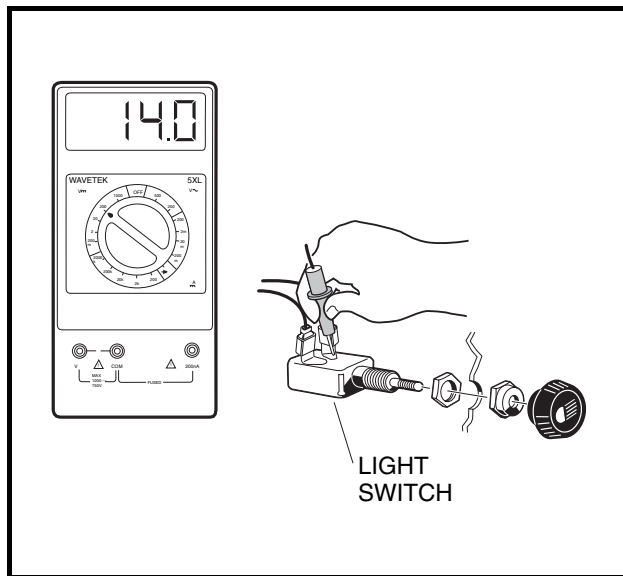

Figure 11b-37 Light Switch Test
4. Use a multimeter set to 20 volts DC, and place alligator clips on the multimeter probes. Connect the red (+) probe to the light switch terminal where the blue wire (w03) is connected (**Figure 11b-37, Page 11b-42**).